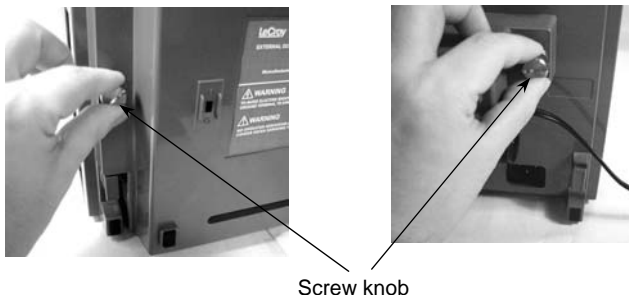

Figure 18. Fastening of BATTERY PACK
3. Manually turn the screw knobs (left and right portions, 2 locations in total) to fasten the BATTERY PACK to the oscilloscope. (See Figure 18.)